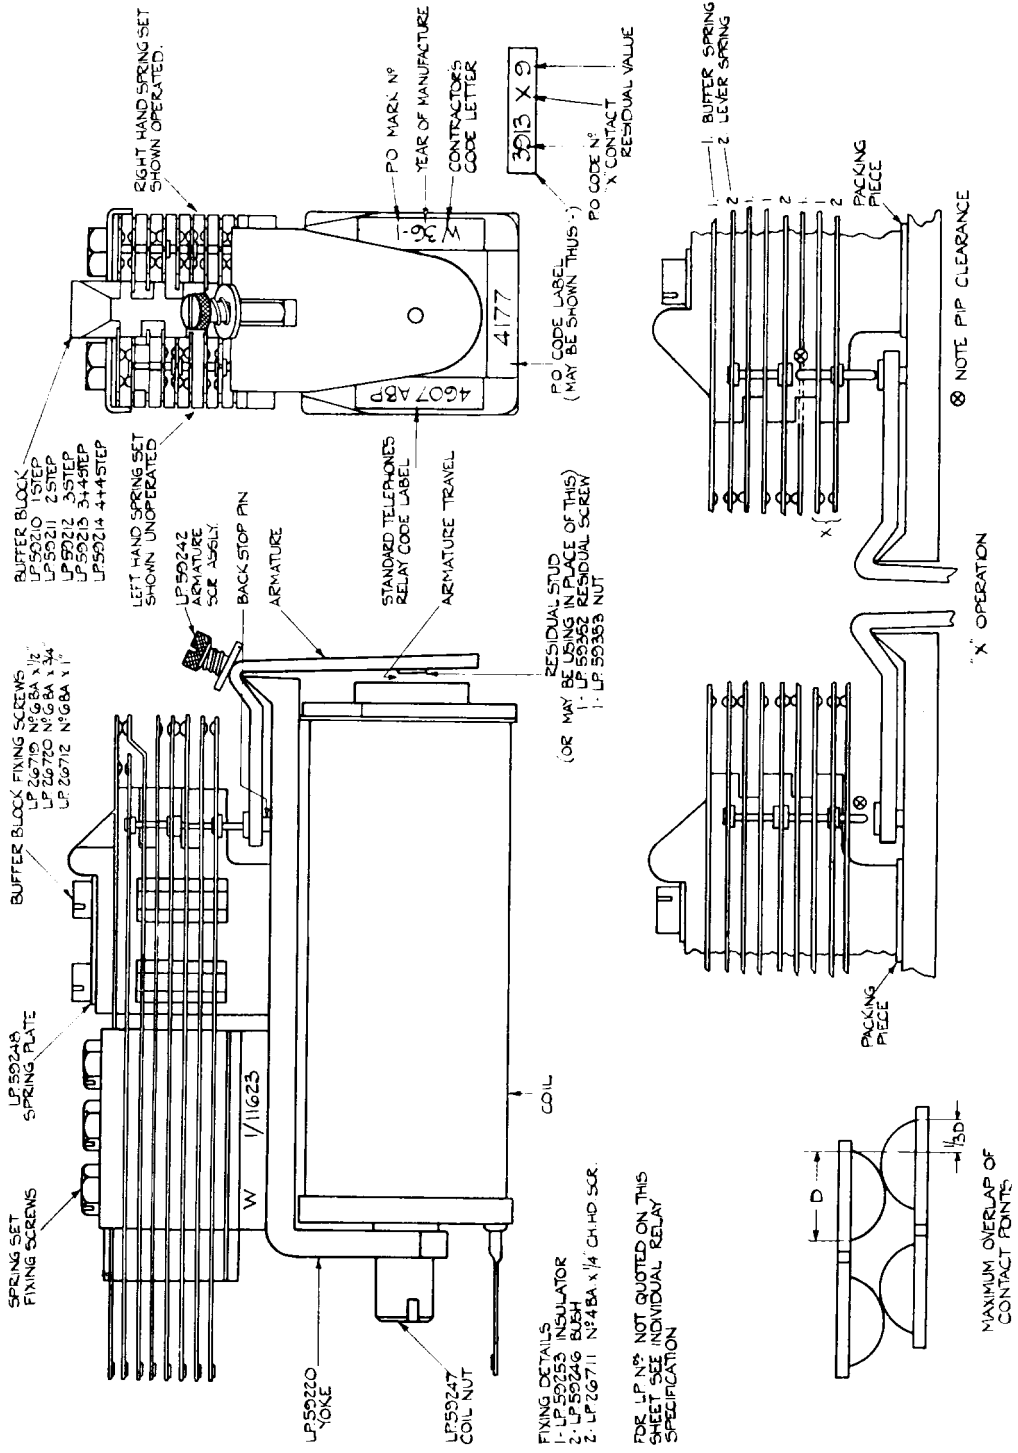

Figure 1
For convenience in ordering spares, the part numbers of the common components are shown in figure 1.
The customer's marking label shown in the figure 1 is either red, green or white. A white label indicates that the relay has 14 mm. springs and must be strictly adjusted to the standard mechanical requirements, in which condition it should satisfy the electrical requirements.
As shown in figure 1, the customer's marking label may bear a letter X and a number. The letter X indicates that one of the contacts functions before the remainder and the relay has an armature travel of 43 mm. The number is the value in mm. of the residual air gap.
(3) **Contact Alignment.** - Contacts must not be out of alignment by more than 20% of the contact diameter. See figure 1.